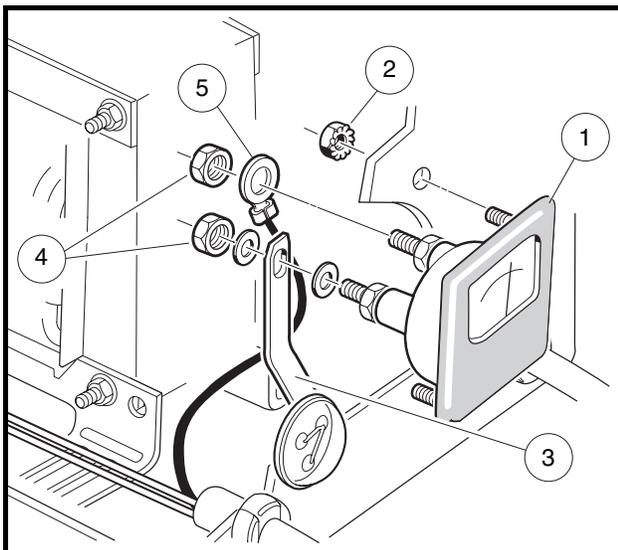

Figure 3-21 Ammeter
3. Disconnect the black wire from the DC cord (5), and the buss bar (3) from the ammeter (**Figure 3-21, Page 3-26**).
4. Remove the two nuts (2) that secure the ammeter to the charger face.
1. Place the ammeter in position in the charger face (**Figure 3-21, Page 3-26**).
2. Install nuts (2) and tighten until ammeter is firmly secured.
3. Connect the black wire of the DC cord (5) to the left (as viewed from inside the charger) post of the ammeter.
4. Connect the buss bar (3) from the fuse link to the right post of the ammeter. Place flat washers on both sides of the buss bar.
5. Thread nuts (4) onto both posts of ammeter until just past finger tight. While holding the inside nut, tighten the outside nut (4) 1/4 turn. **See following CAUTION.**
3. Remove both black secondary coil transformer wires and the buss bar from the back of the fuse link assembly (**Figure 3-21, Page 3-26**).
2. Install the buss bar (3) over the center branch of the fuse assembly and ammeter post (**Figure 3-21, Page 3-26**). Tighten to 22 in-lb (2.5 N·m).